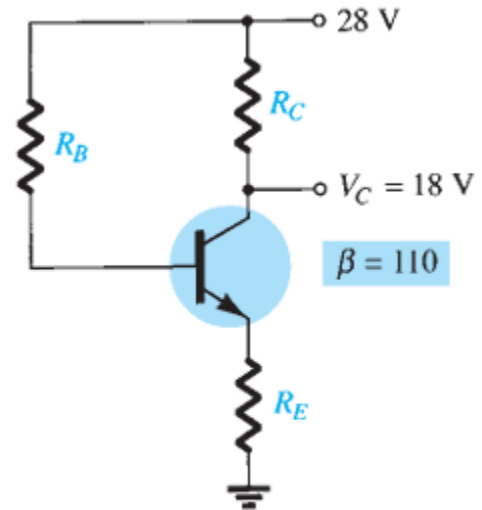

FIG. 4.61
- **EXAMPLE 4.23** The emitter-bias configuration of Fig. 4.61 has the following specifications: